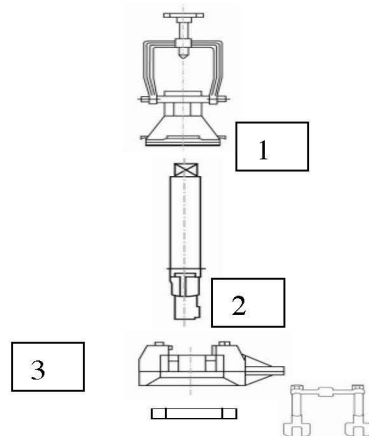

Figure A19 - Wask Tee-Set Drilling Equipment
1. A top entry tee is the preferred fitting for metallic service connections installed on the top of the main (Figure A19).